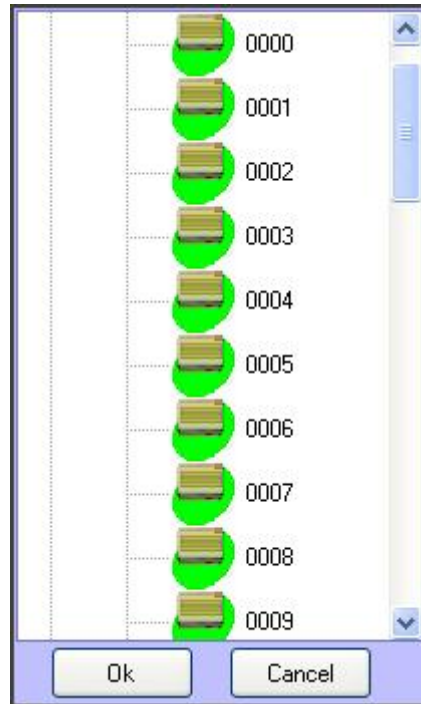

Figure 4-7
2. b is used to select an indoor unit. Click  beside the indoor unit drop-down list to view the tree consisting of indoor units and controller, as shown in Figure 4-7. Select an indoor unit, and then click **OK**. Then the name of the indoor unit appears in the drop-down list. Click **Query** to display information about the indoor unit in d.